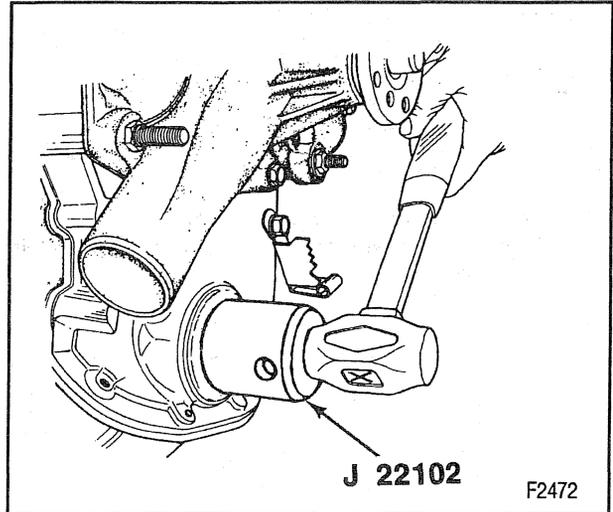

Figure 21—Installing the Front Crankshaft Seal
Install or Connect (Figure 21)
1. New front crankshaft seal. Use tool J 22102 (figure 21). Lubricate the seal lips with engine oil.
Install or Connect (Figures 21, 22 and 23)
1. New front crankshaft seal to the front cover. Use tool J 22102 (figure 21)